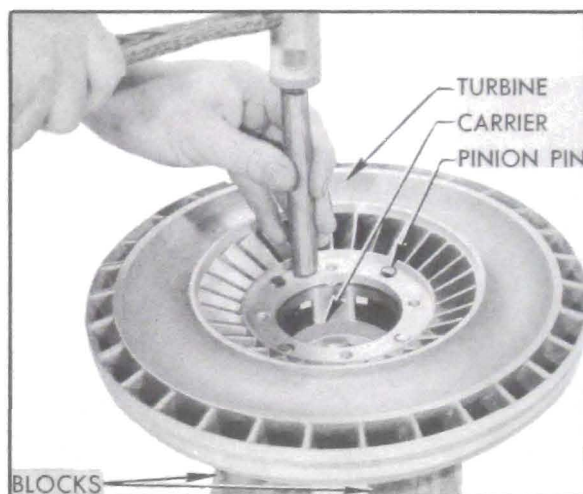

Figure 4-27—Installing Turbine on Carrier
7. Use a hammer and hardwood dowel or other soft punch to tap the turbine down over the carrier. Avoid distortion of turbine by using light blows applied midway between holes and alternated from side to side to keep parts square with each other. See figure 4-27.